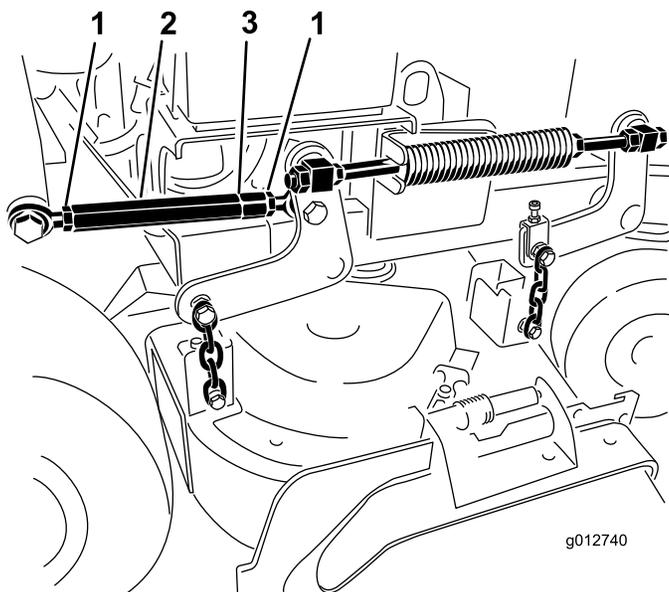

Figure 85
7. Loosen the jam nuts at both ends of the turnbuckle (Figure 85).
- Note:** The end of the turnbuckle with the groove machined in it has left hand threads (Figure 85).